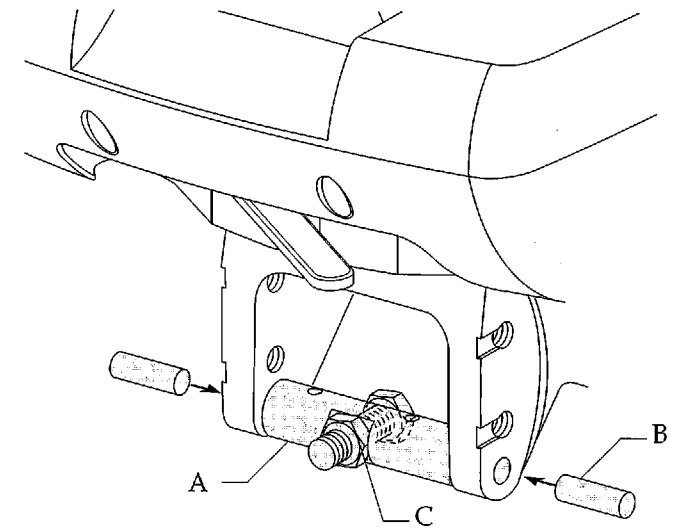

Figure 37. Installing the leveling bar with the dowel pins. (A) leveling bar; (B) dowel pin; (C) leveling bar bolt
1. Install the leveling bar to the chair swivel with the two dowel pins (see Figure 37).